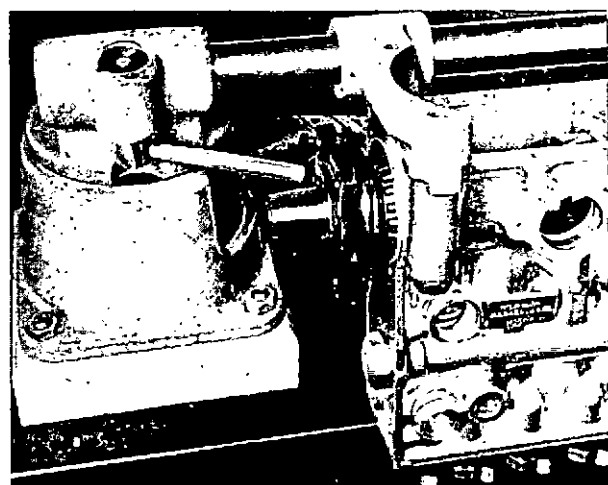

Fig. 36 Assembling drive end bearing.
14. Fit the governor housing and joint washer, together with the appropriate adjusting plate as determined in Operation 1. Enter the camshaft from the drive end and fit the centre bearing tightening its two socket screws to between 8 and 9 Nm (5 to 6.5 lbf. ft.). Assemble the drive end bearing plate with shims, but omitting the 'O' ring (fig. 36).